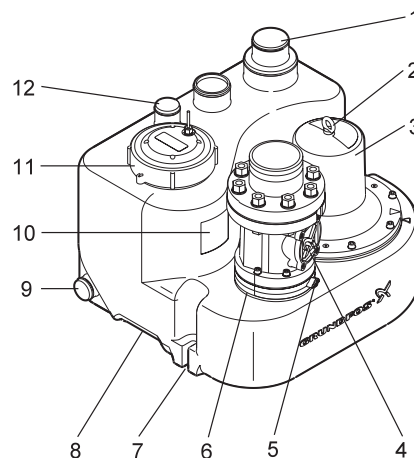

Fig. 1 MSS
**Note:** The lifting station must be lifted by the carrying handles cast in the bottom of the collecting tank, see pos. 8 in fig. 1 and 2.